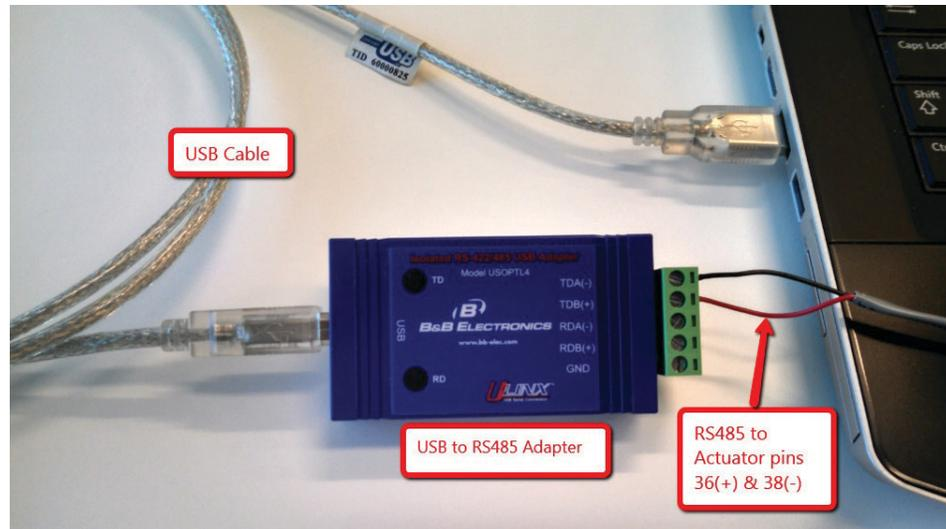

Figure 1 RS485 Setup
1. Connect USB cable to the RS485 Adapter and plug the other end of the cable into the USB port on the computer. See Figure 1.